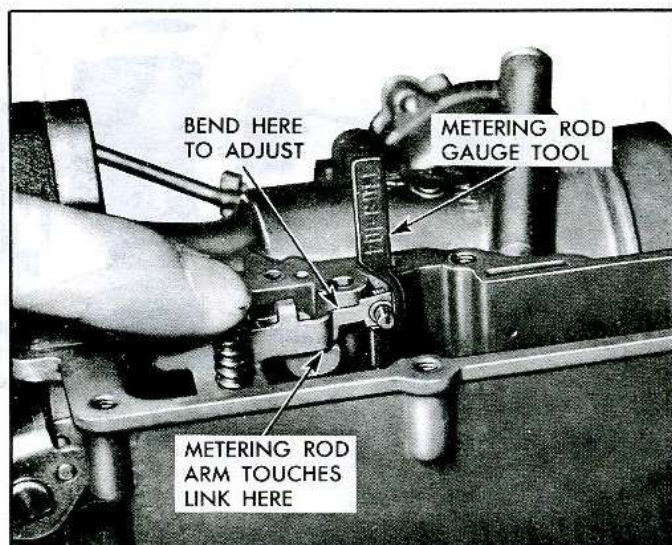

Fig. 30—Adjust Metering Rod Arm
- c. Push down on pump diaphragm rod until the metering rod arm just touches the lifter link (fig. 30).